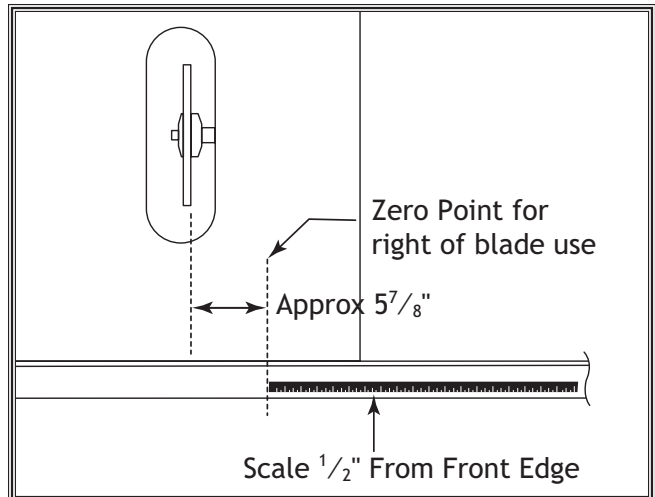

Figure 13. Scale location for right-side blade use.
5. Using the zero mark as the starting point and the masking tape as a guide, apply the adhesive scale to the rail. **See Figure 13.** Push the scale into place with heavy thumb pressure.